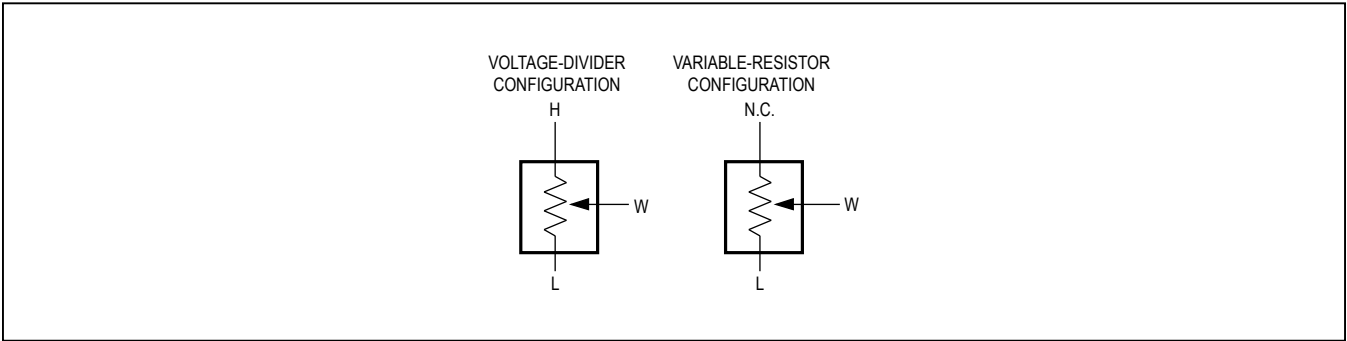

Figure 1. Voltage-Divider/Variable-Resistor Configurations
**Note 2:** DNL and INL are measured with the potentiometer configured as a voltage-divider (Figure 1) with  $H = V_{DD}$  and  $L = GND$ . The wiper terminal is unloaded and measured with an ideal voltmeter.
**Note 3:** R-DNL and R-INL are measured with the potentiometer configured as a variable resistor (Figure 1). DNL and INL are measured with the potentiometer configured as a variable resistor.  $H_{-}$  is unconnected and  $L_{-} = GND$ . For  $V_{DD} = +5V$ , the wiper terminal is driven with a source current of  $400\mu A$  for the  $10k\Omega$  configuration,  $80\mu A$  for the  $50k\Omega$  configuration, and  $40\mu A$  for the  $100k\Omega$  configuration. For  $V_{DD} = +2.6V$ , the wiper terminal is driven with a source current of  $200\mu A$  for the  $10k\Omega$  configuration,  $40\mu A$  for the  $50k\Omega$  configuration, and  $20\mu A$  for the  $100k\Omega$  configuration.
| 1                  | 11/09            | Released MAX5386LATE+ and MAX5386NATE+ in Ordering Information ; corrected specifications for Full-Scale Error, Zero-Scale Error, and Integral Nonlinearity in Electrical Characteristics ; added I.C. row to Pin Description ; corrected Figure 1 | 1, 2, 7          |